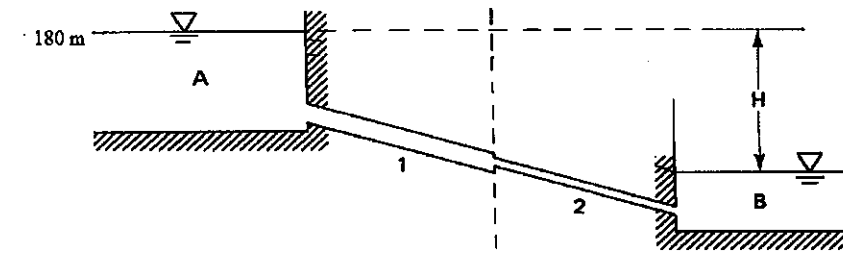

Figure 4 (b) / Rajah 4 (b)
- b) **Figure 4(b)** depicts two different pipes which are connected in series with the given diameter of pipe 1 = 0.6 m, while the diameter of pipe 2 is 2 times smaller than pipe 1. The length of both pipes are 200 m and 150 m respectively. The level of water for tank A is 180 m and the rate of water flows in pipeline to tank B is $0.5 \text{ m}^3/\text{s}$. Consider that the entrance and exit of the pipe are sharp and both pipes have different roughness surfaces of $f_1 = 0.017$ and $f_2 = 0.018$. List all the head losses with the formula that can possibly occur in the system then, write down the energy equation of the system.
- c) Based on **Figure 4(b)**, determine the level of water for Tank B, if the coefficient of contraction, C_c is given as 0.27.
- d) Consider a similar system as in **Figure 4(b)** with no head losses occurred except for the situation of changes in pipe diameter for pipe 1 and 2 and the velocity of pipe 1 is 4 times of pipe 2. The Diameter of pipe 1 is 240 mm and for pipe 2 is 480 mm. Calculate the velocity in pipe 2.